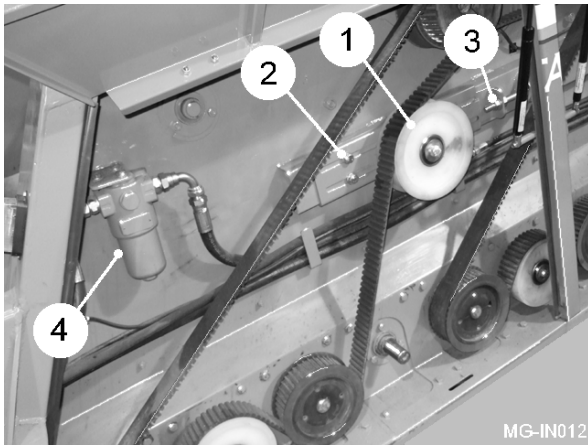

Fig 16
As a guide, correct belt tension is achieved when, at a distance half way between the furthest spaced pulleys, the belt can be twisted approximately 45°. The LH and RH input belts should be adjusted first (see page 1.29). Ensure alignment by measuring the distance between the pulley centres. Both sides must be equal. The tension rollers (item 1, fig 16) are each fitted with a compression spring. When tensioned correctly, the LH drive springs should be compressed to the lengths shown on page 1.30 and the RH drive springs to the lengths shown on page 1.31. To adjust the tension, loosen the four mounting bolts (item 2, fig 16) and turn the adjuster screw locknuts (item 3, fig 16).
A pressure filter (item 4, fig 16) is mounted in the supply line from the tractor. The element should be replaced after the first 50 hours of running time and then annually or every 500 hours thereafter.